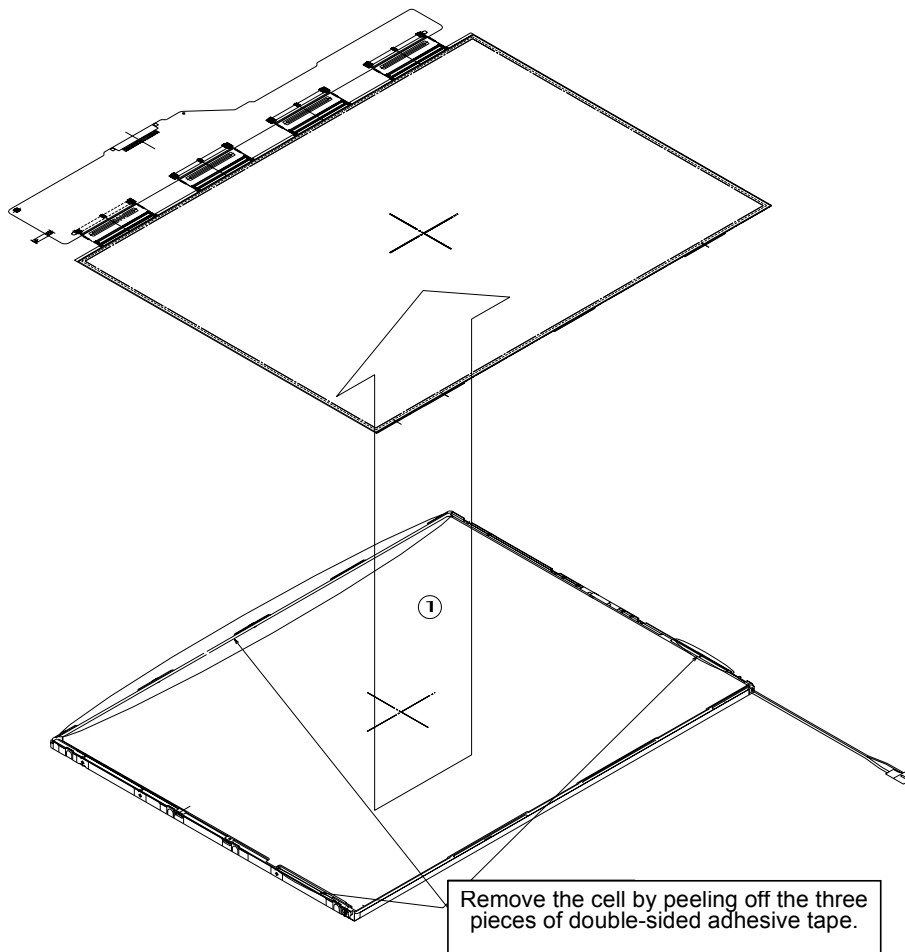

Figure 4-67 Replacing 14 Inch TMD fluorescent lamp (5)
1. Remove the cell of the PCB assembly from the backlight assembly, as indicated by (1) in Figure 4-67. Completely remove the double-sided tape remaining on the reverse side of the cell.
CAUTION: *On the cell, three areas are bonded to the frame with the double-sided tape (as shown in Figure 4-67, one area is at the top, and two areas are at the bottom of both sides). Remove the cell gently, taking care not to damage it. Be careful not to peel off the masking tape in the three areas on the cell.*